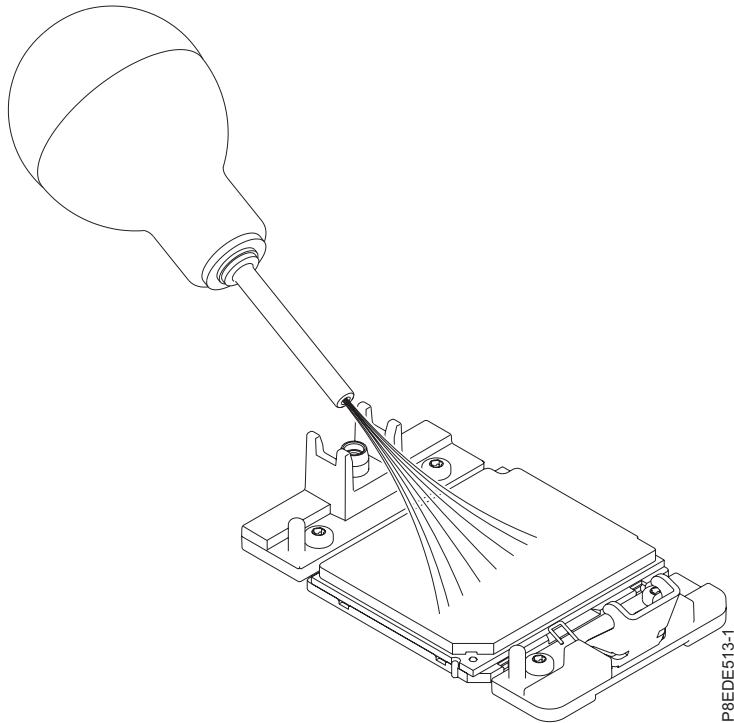

Figure 88. Removing dust and debris from the system processor module area
- a. If dust or debris is present, use the supplied air pump (part number 45D2645) to clean the system processor module area. Blow small bursts of air from the center toward the sides of the system processor module as shown in Figure 88 on page 87.